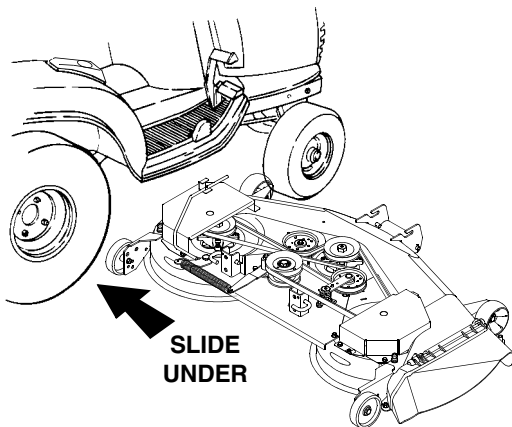

Figure 27
2. Position the deck on the right side of the tractor with the front of the deck facing toward the front of the tractor (Refer to Figure 27).